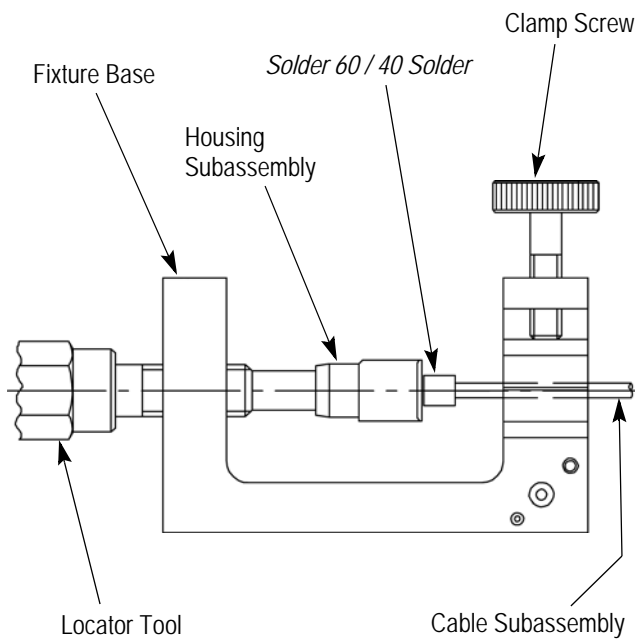

Figure 5
2. Place the loose assembly in the fixture base as shown in Figure 5.
3. Maintain the position of the housing subassembly firmly against the locator tool and solder (as shown in Figure 5).